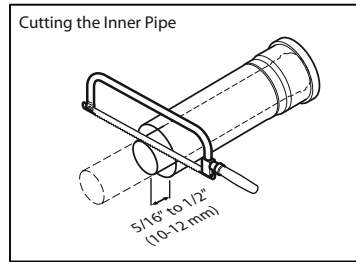

Figure 5
- (c) Mark the inner pipe so it is 5/16 in. (10mm) to 1/2 in. (14mm) longer than the outer. Cut along the mark. **(Fig.5)**